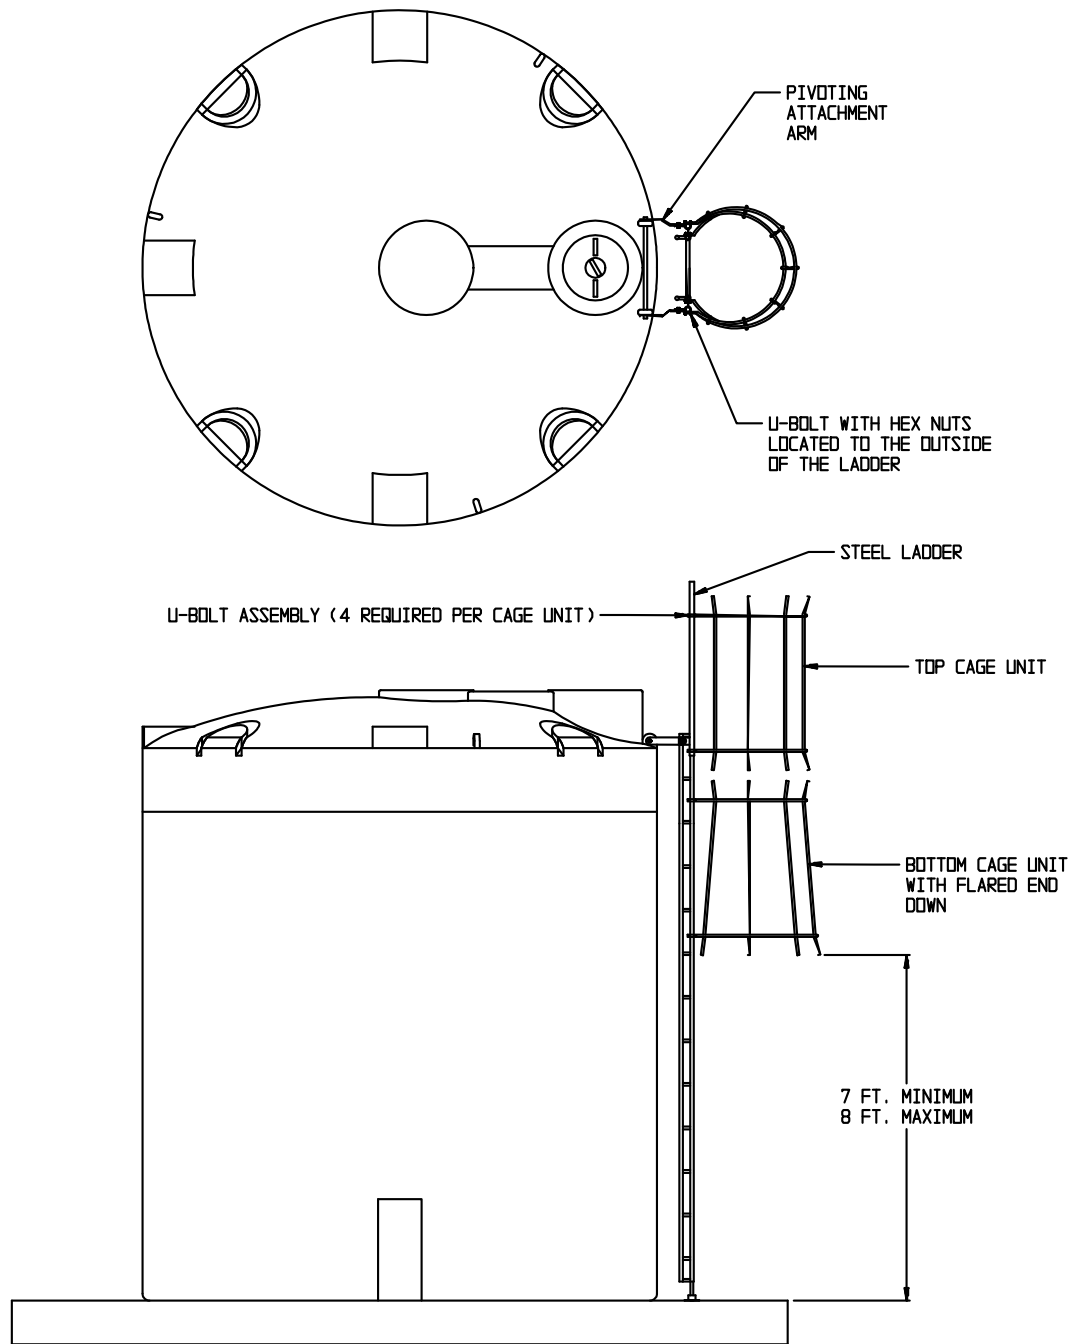

Figure 8.5
8.5.1 Using the assembly drawing shown in Figure 8.5 and the instructions in section 8.5.2, verify that all parts are present and assemble accordingly. These cages are designed for use only with the SII steel ladder design. Cages are required for ladders used to ascend to heights exceeding 20 ft.